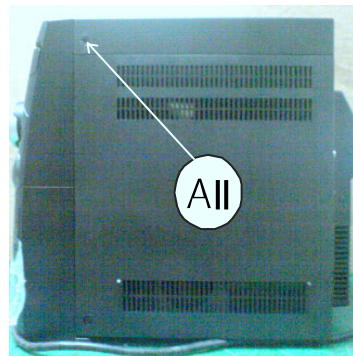

Figure2
- 1 screws "AII" each on the left& right sides as shown in figure2